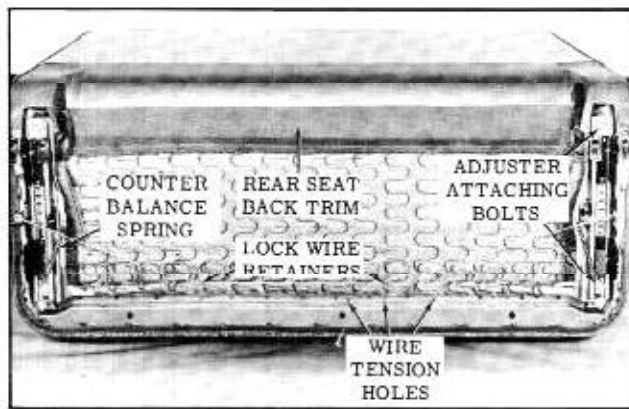

Fig. 15-60 Front Seat Adjuster Removal
2. Remove seat adjuster counterbalance spring attached to seat adjuster front support and seat bottom frame as shown in Fig. 15-60.
5. Remove adjuster-to-seat bottom frame front and rear attaching bolts shown in Fig. 15-60 and remove seat adjuster from seat assembly.
7. If right adjuster does not lock or unlock satisfactorily when control handle on left adjuster is operated, disengage locking wire retainer on right side of seat from hole in seat bottom frame and engage retainer in one of adjacent holes to obtain proper tension in wire. (Fig. 15-60)
2. Remove hog rings securing central portion of lower rear edge of seat back trim from front seat cushion spring assembly. (Fig. 15-60)